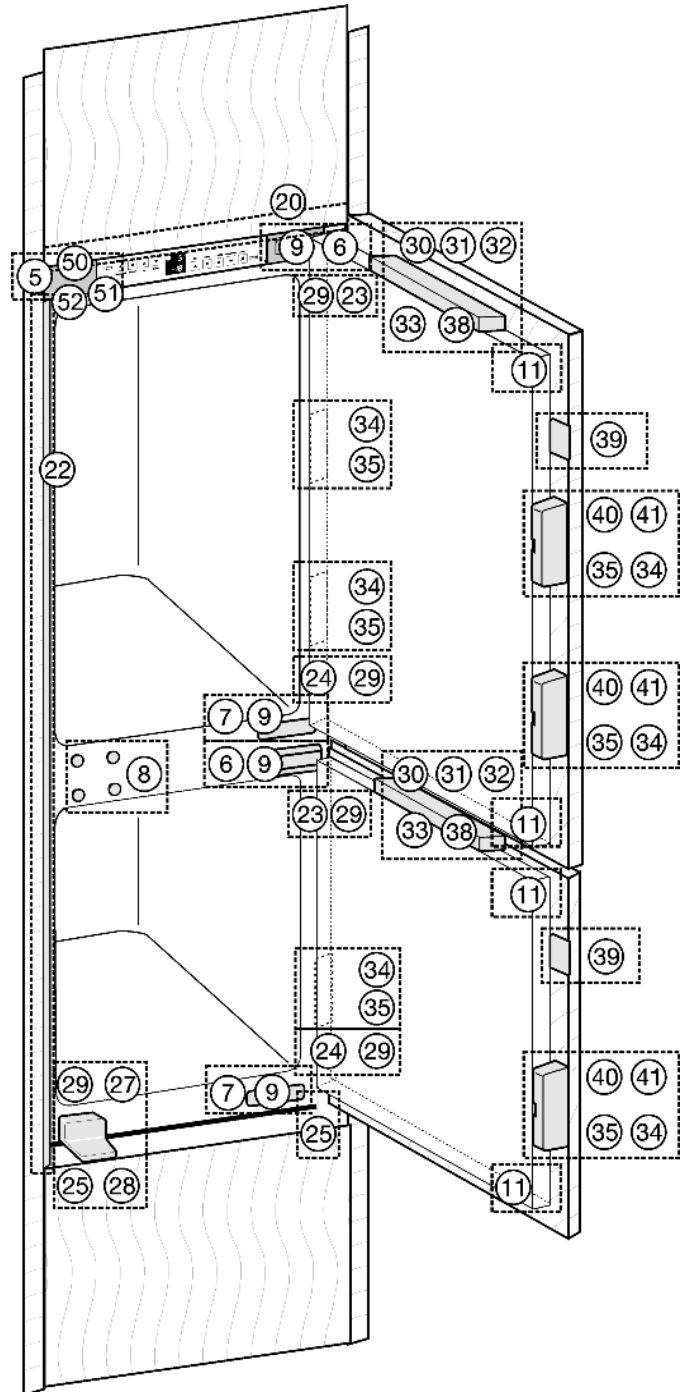

Fig. 10
- ▶ Remove covers Fig. 10 (5,6,7).
- ▶ Clip spacer Fig. 14 (23) onto the upper hinge and spacer Fig. 10 (24) onto the lower hinge.